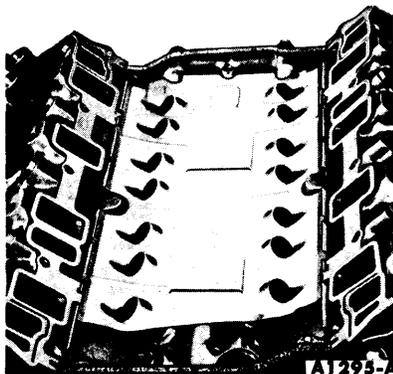

FIG. 23—Intake Manifold Gaskets and Seals Installation
4. Position new seals on the cylinder block and new gaskets on the cylinder heads. Position the gasket slots in the end tabs over the ribs on the seals. Be sure the holes in the gaskets are aligned with the holes in the cylinder heads. The correct installation of the gaskets and seals is shown in Fig. 23.